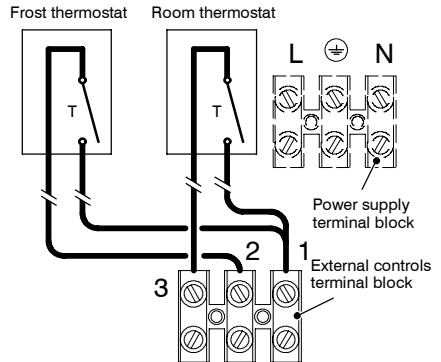

Fig. 6.19
- 10 Connect the frost thermostat between terminals 1 and 2 as shown in Fig. 6.19. **Do not connect live wires to terminals to which the room thermostat must be connected.**